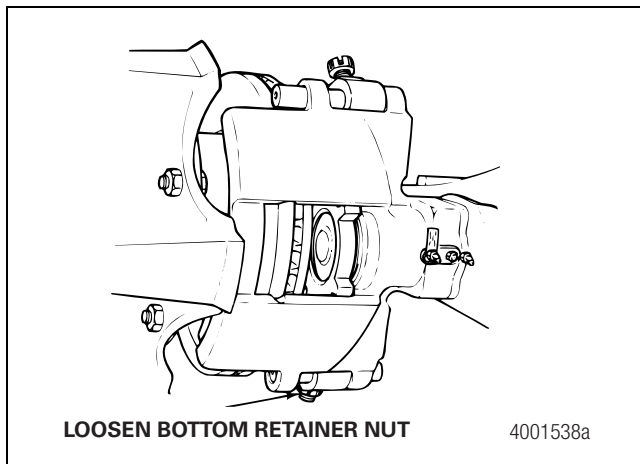

Figure 3.3
9. Remove the cotter pin from the bottom slide pin retainer. Loosen the nut on the retainer. Figure 3.3.